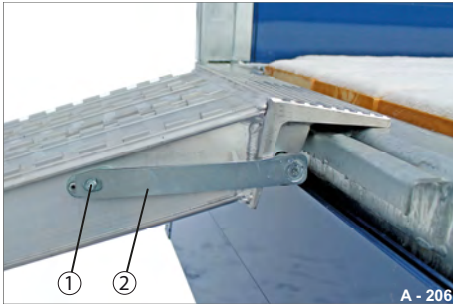
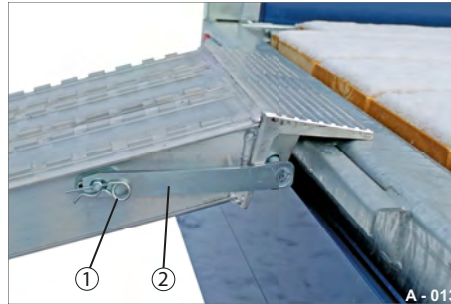

Fig. 17 Repositioning the locking lever
Fig. 18 Securing the locking lever
► Press the locking lever (Fig. 17/2) onto the retaining bolt (Fig. 17/1).
► Insert the spring pin (Fig. 18/1) into the retaining bolt (Fig. 17/1).